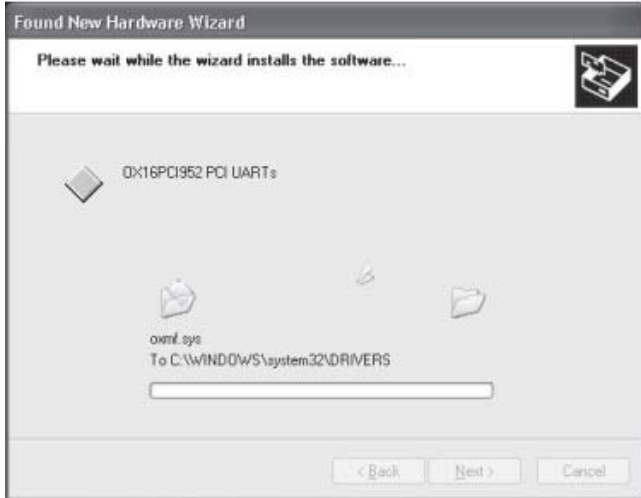

Figure 12
5. The Windows XP Hardware Wizard then installs the drivers as shown in Figure 12.